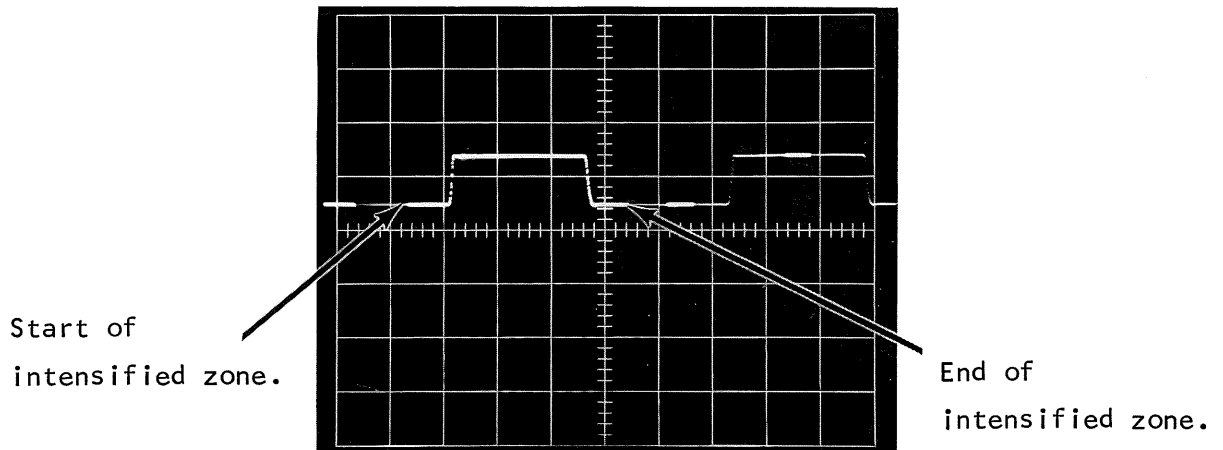

Figure 2-22
4. On the 6R1A, set the CRT INTENSIFICATION START TO STOP control up (on). Set the MANUAL START control so the intensified zone starts before the first positive slope. Set the MANUAL STOP control so the intensified zone stops after the first negative slope. See Figure 2-22.